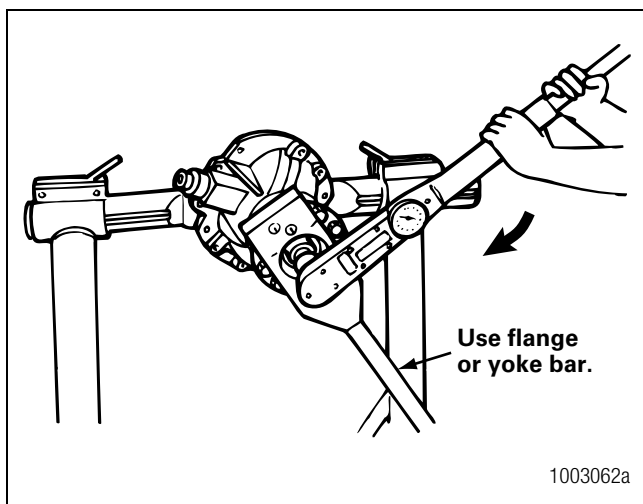

Figure 5.30
6. Install the drive pinion nut and washer onto the input pinion shaft and against the yoke collar. Tighten the nut against the yoke collar to torque specifications. Figure 5.30. Refer to Section 8.